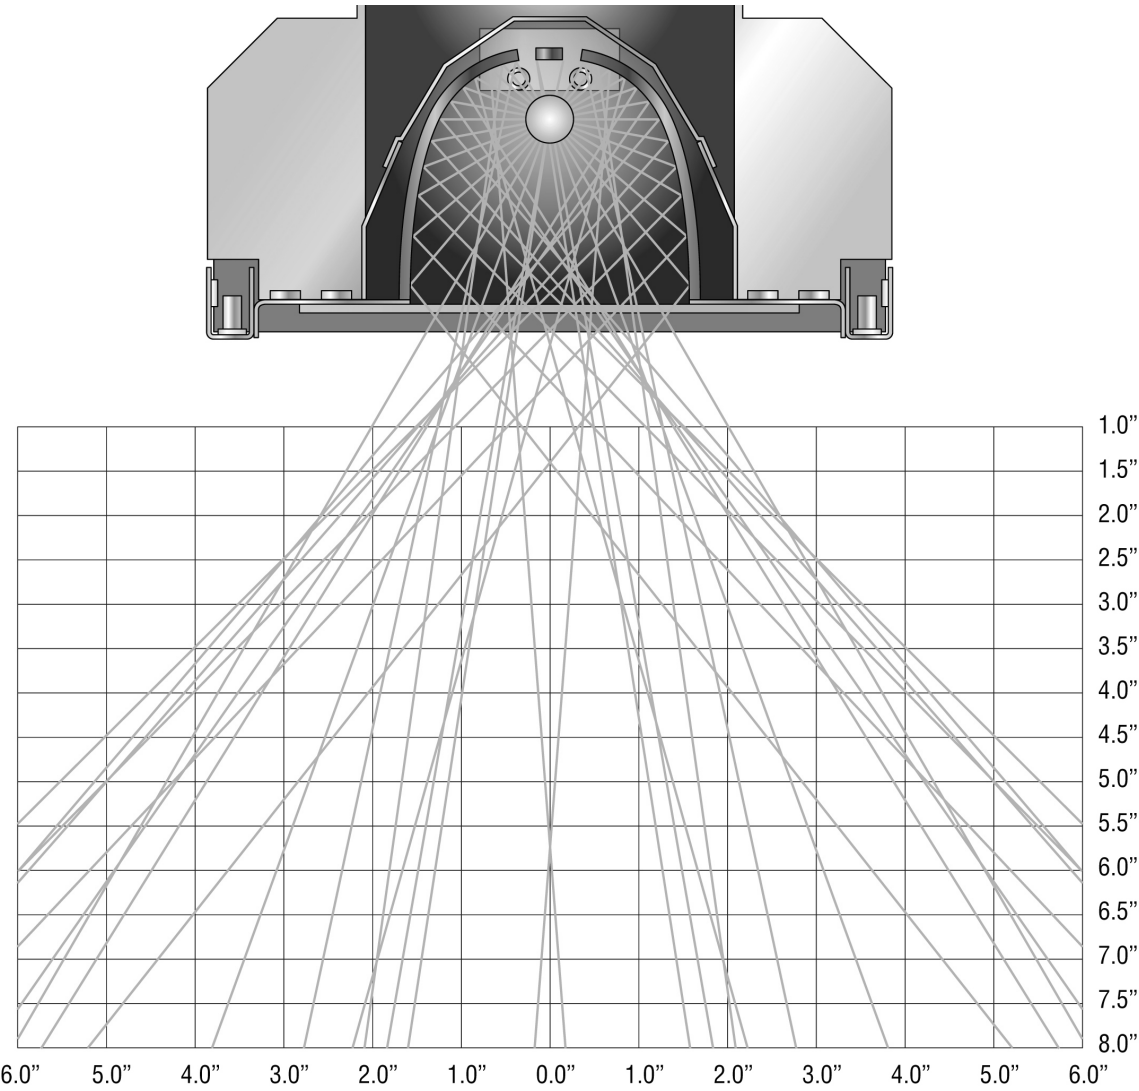

Figure 2-4 Flood Reflector Diagram
- The flood reflectors produce a wider band of UV light. See Figure 2-4.